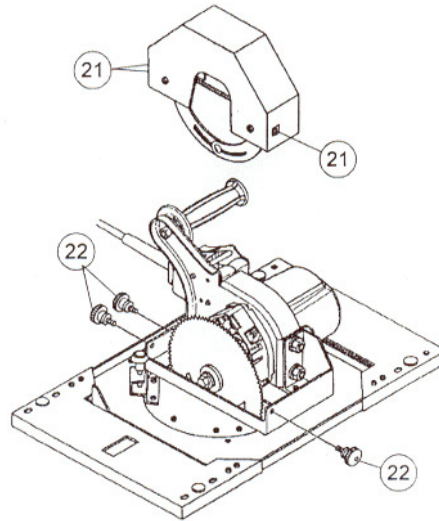
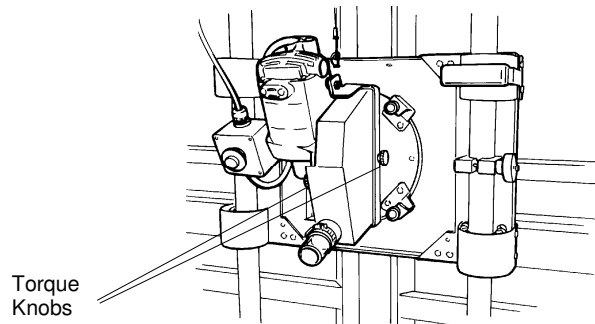

Figure 8: Installing the Blade Guard (Models C4, C5, H4, H5, H6)
Figure 9: Installing the Blade Guard (Models 6400, 6800)
The blade guard (Figure 8 or Figure 9) is in the box marked "Saw Motor." Always install the blade guard before operating the saw. The guard is shipped with two or three red torque knobs (22) installed, depending on the model. Remove the knobs to install the guard. Be sure to leave the rubber washers on the torque knobs, because they prevent the knobs from slipping.